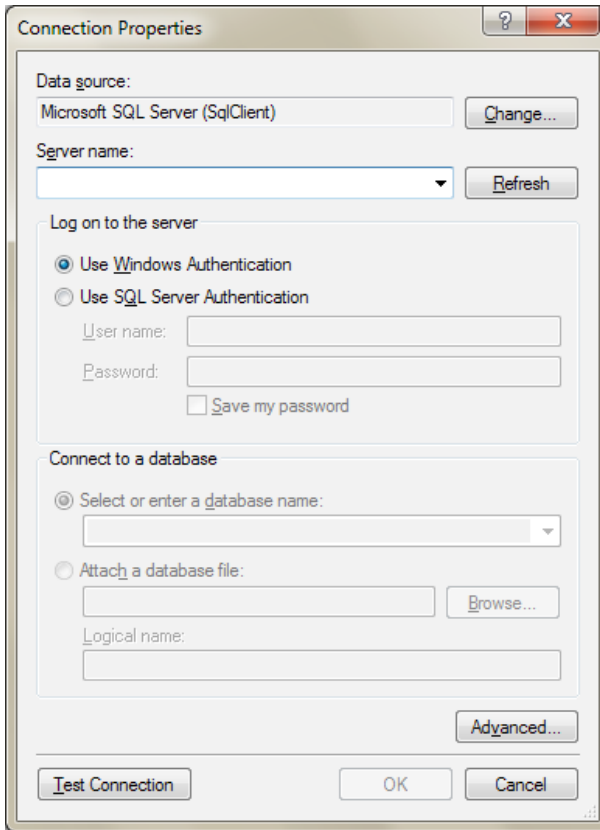

Fig. 4-9 Connection Properties
1. Click **Connection** to open the connection properties window, as illustrated in Fig. 4-9.